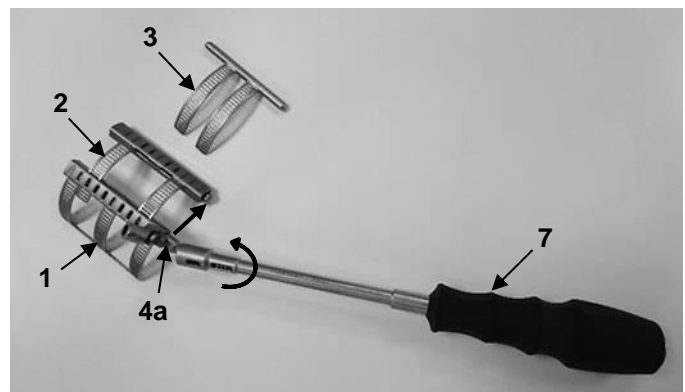

Fig. 21
2. Then remove the primary element (2) from the base element (1) using the appropriate screwdriver (7). To do this, turn the transport mechanism on the box module of the base element (4a) clockwise using the suitable screwdriver (7) until it can be removed (Fig. 21).